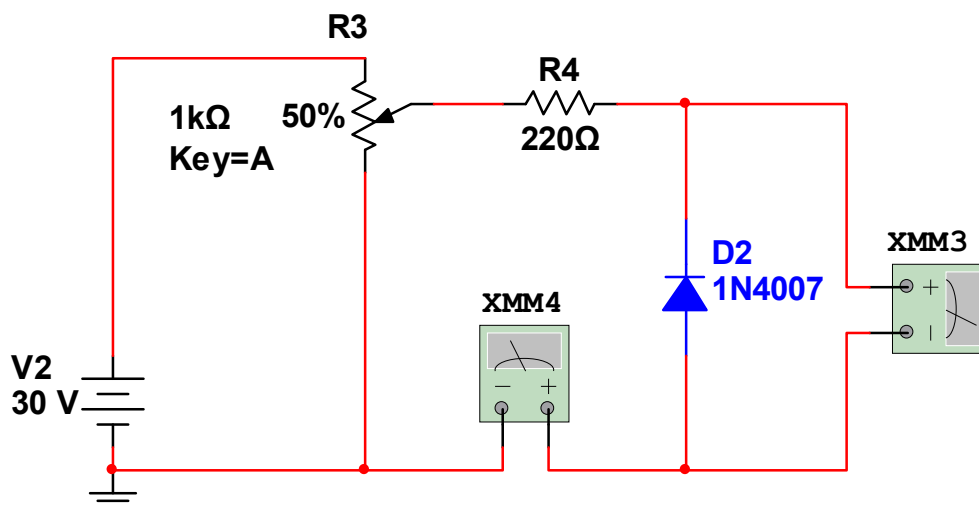

Figure 1.2: Reverse Bias Circuit of PN Junction Diode
- ❖ For reverse bias characteristic, make the connections as shown in the figure 1.2.